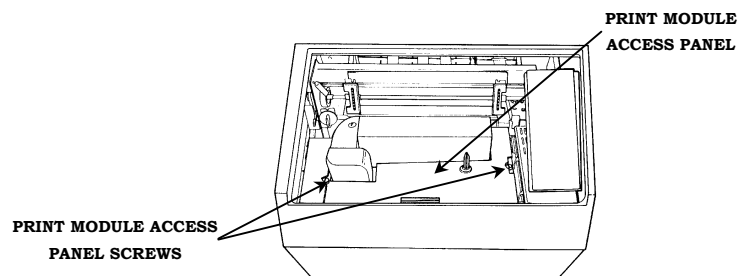

**Figure 2-6
7. Unscrew the two print module access panel screws (Figure 2-6) and tilt the print module access panel up towards the front of the printer.